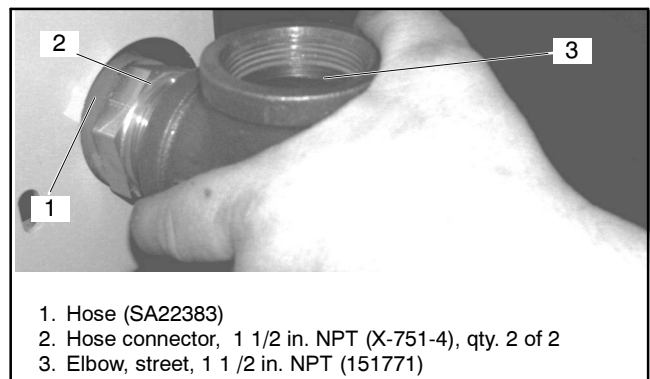

Figure 20 Elbow 151771 to Vent Pipe Subassembly
- 2.2.14 Attach 1 1/2 in. NPT hose connector X-751-4 with 1 1/2 in. NPT elbow 151771 to hose SA22383. See Figure 20.
2.2.18 Apply pipe sealant to threads on 1 1/2 in. NPT elbow 151771. See Figure 20.